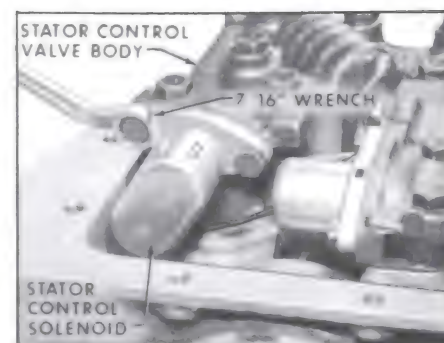

Figure 5-347
8. Install stator control solenoid and gasket to stator control valve body. Torque bolts to 8-12 ft. lbs. See Figure 5-347.